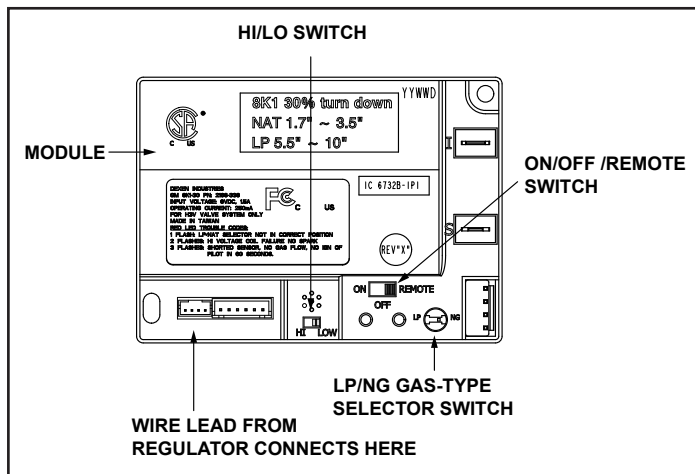

Figure 3.6 - Control Module
1. The control module has an ON/OFF/REMOTE selector switch that must be set. See Figure 3.6.
- Locate the module selector switch. (See Figure 3.6).
- Wait five (5) minutes to allow possible accumulated gas to clear.